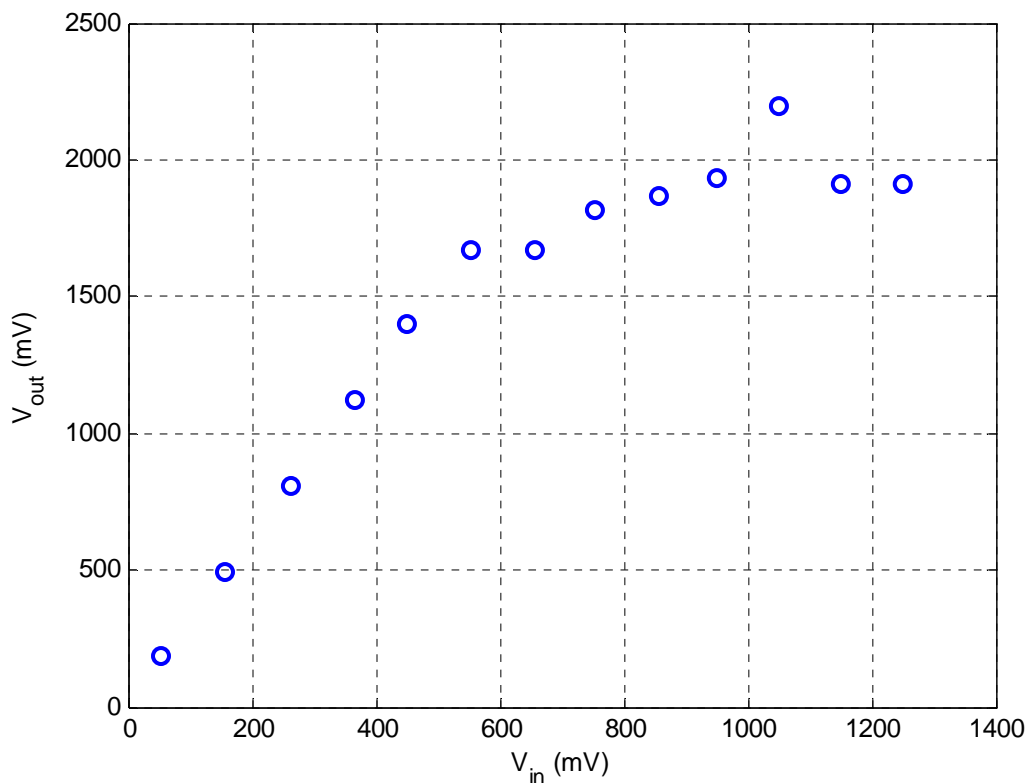

Figure 5. Measured input/output data.
3) Enter the input amplitudes and output amplitudes into two arrays in Matlab, and plot the output versus the input amplitudes. Your graph should look something like that shown in Figure 5 below: